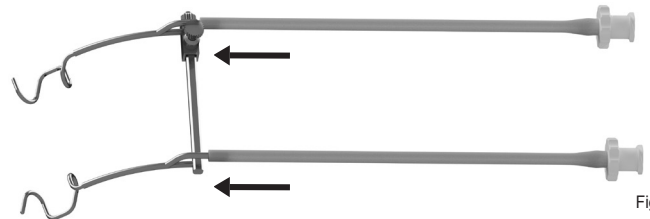

Fig. 4
- Assemble the cleaning adapter (G-31024) according to fig 4.
- After cleaning and disinfection remove the cleaning adapter in reverse order (see fig. 4).